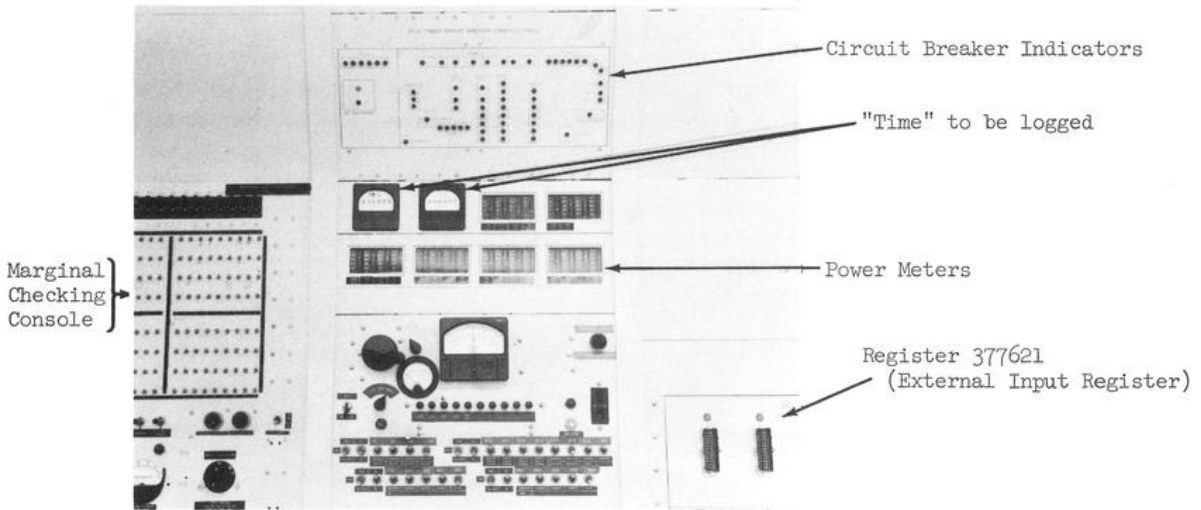

Fig. 5-3 - Maintenance Console
| 5-1.3 | Power Alarms - Breakers (Fig. 5-3) | 5-3 |
- F1 - Console - See Figure 5-3, 5-4, 5-5, 5-6, 5-7, 5-8, 5-9
Hold the button in until the warning horn stops. The computer will be "ready" in about 1 1/2 minutes. Run "clear memory" once or twice with parity alarms suppressed. Un-suppress the alarms. the computer should be ready for use. Log the time. (Fig. 5-3) Turn on the Lincoln Writer(s), and the IBM Tape Units. (They have their own power switches.)
Be sure TX-2 tape is at "MAT 0000", before pushing "OFF" button. Log the time. (Fig. 5-3) Turn off the Lincoln Writer(s), and IBM Tape Units.